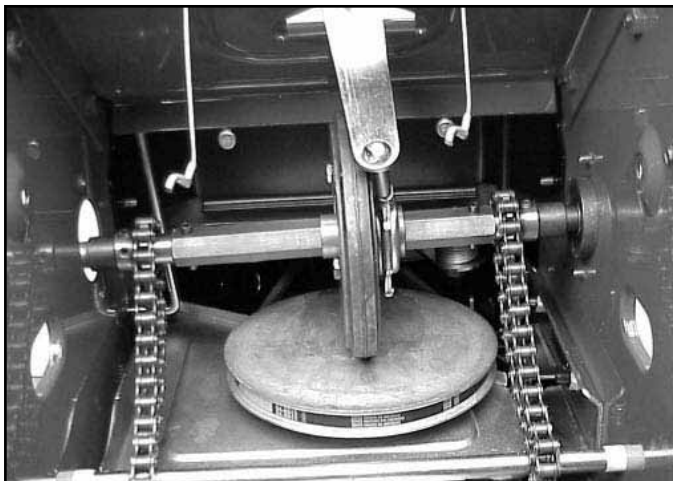

Fig 134
17. Remove hex shaft clutch assembly / friction wheel from housing (Fig. 134).